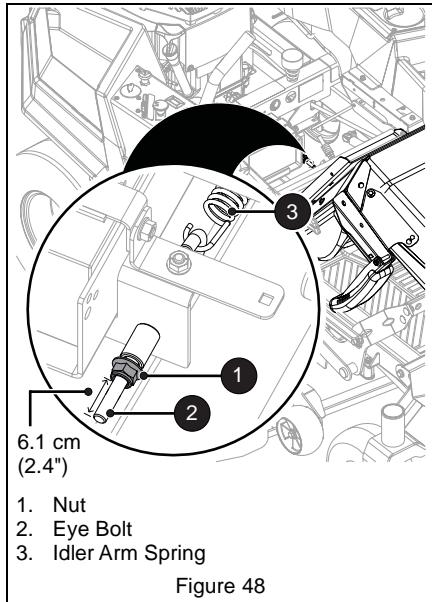

Figure 48
3. Loosen nut on eye bolt and disconnect idler arm spring. See Figure 48.
5. Reconnect idler arm spring to eye bolt and secure bolt to unit with nut. Tighten until the nut is 6.1 cm (2.4") from the threaded end of the eye bolt. See Figure 48.